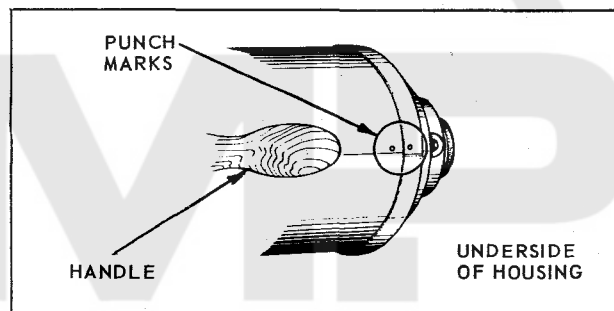

Figure 4.
a. Back motor bearing (244). It is necessary first to remove the back housing (245) and then push the bearing out. Replace the back housing and tighten the motor bolts. Then put in the new back bearing. When installing a new bearing, place the old bearing behind it while tapping it into the back housing. Rotate the old bearing when tapping so that the pressure will be evenly distributed. In this way, neither the inner nor the outer race of the new bearing will be harmed.
b. Front motor bearing (210). Remove the armature after removing crank and back housing. Unscrew the bearing lock (211) and then push the bearing forward and out. Install the new bearing as described in 5 a
c. Crank pin bearing (215). Remove the bearing lock (216) on the face of the crank, remove the screw in the back of the crank and tap the bearing out.
(1) The motor cylinder (236) should be replaced on the front housing (233) so that the nameplates on both sides are in the same horizontal plane.
(2) The back housing has a punch mark on the underside which matches a punch mark on the motor cylinder. Be sure that these two marks are in line with one another when replacing the back housing on the motor cylinder. Otherwise, the motor will not function properly. See Figure 4.